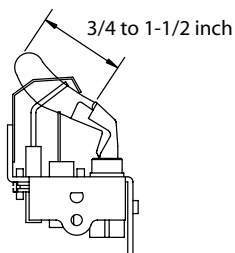

Figure 4
3. The manifold pressure must be adjusted to 3.5 inches water column (0.9 kPa). This manifold pressure applied to #42 main burner orifices assures that the input rating is correct for altitudes up to 2,000 feet (610 m). For altitudes above 2,000 feet (610 m), see (4) below. This is very critical as overfiring or underfiring can cause problems. Move the manual control on the gas valve to the "Off" position, connect the manometer to the pressure tap on the outlet side of the gas valve, turn the control on, fire the unit and adjust the pressure if necessary. To adjust the pressure, remove the cap from the pressure regulator on the gas valve, turn the regulator screw clockwise to increase pressure or counter clockwise to decrease pressure, then replace the cap.
6. The pilot flame should be $\frac{3}{4}$ to $1\frac{1}{2}$ inch (19 to 38 mm) in length (see Figure 4). To adjust the pilot flame, remove the pilot adjustment cover screw adjacent to the pilot tubing nut on the gas valve. Turn the inner screw clockwise to decrease pilot flame or counterclockwise to increase pilot flame. Replace the cover screw.